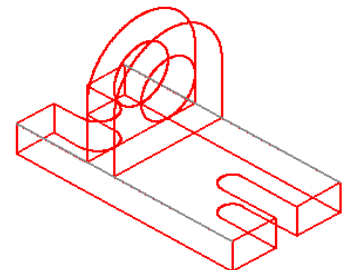

Figure Step 6
Step 6 On layer Construction, draw a line along the top edge of each side of the model as shown in Figure Step 6.